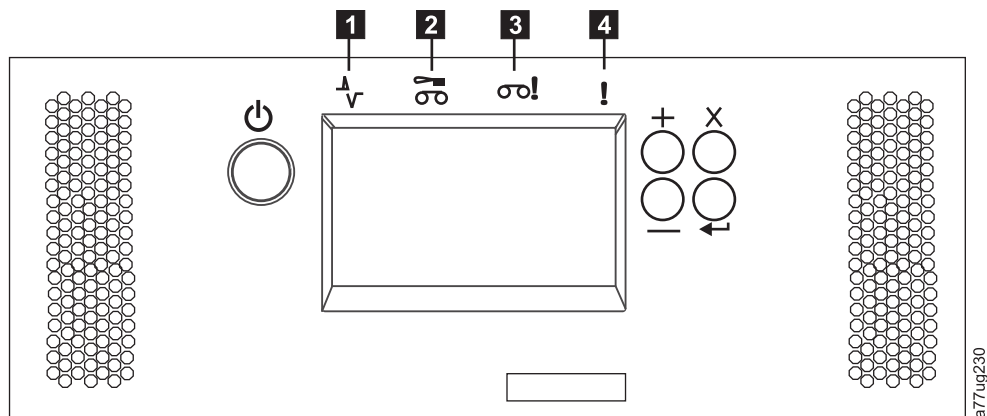

Figure 10-23. Library front panel LEDs
- 1) After power up, the Ready/Activity LED (**1** in Figure 10-23 on page 10-23) turns ON.
- 1) The Error LED (**4** in Figure 10-23 on page 10-23) turns ON.
- 1) The replacement library enclosure powers up with the Ready/Activity LED (**1** in Figure 10-23 on page 10-23) ON.
- 1) The Error LED (**4** in Figure 10-23 on page 10-23) turns ON. This action indicates that the library controller card from the defective library is not functioning properly.
- 1) The replacement library enclosure completes with the Ready/Activity LED (**1** in Figure 10-23 on page 10-23) ON.
- 1) The error LED (**4** in Figure 10-23 on page 10-23) turns ON.